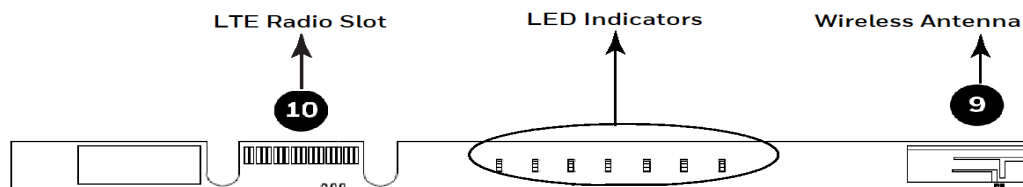

Figure 3.6: Gateway Connections - Top Side
Figure 3.6 illustrates the connection options at the top side of the gateway board.
1. On the gateway side, connect an Ethernet cable to the Ethernet port. The port is labeled as 2 in Figure 3.6.